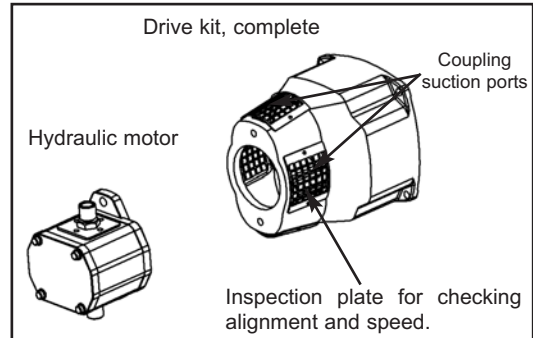

Figure 6
1. If the compressor is to be driven hydraulically, Blackmer can supply a standard Drive Kit for direct mounting of the hydraulic motor or hydraulic pump. Blackmer can also supply the hydraulic motor ; See figure 6.
3. If the couplings are aligned correctly, the outer plastic sleeve should have 0.19 inch (5 mm) axial play through 360° rotation. This can be checked by removing the inspection plate ; See figure 6.